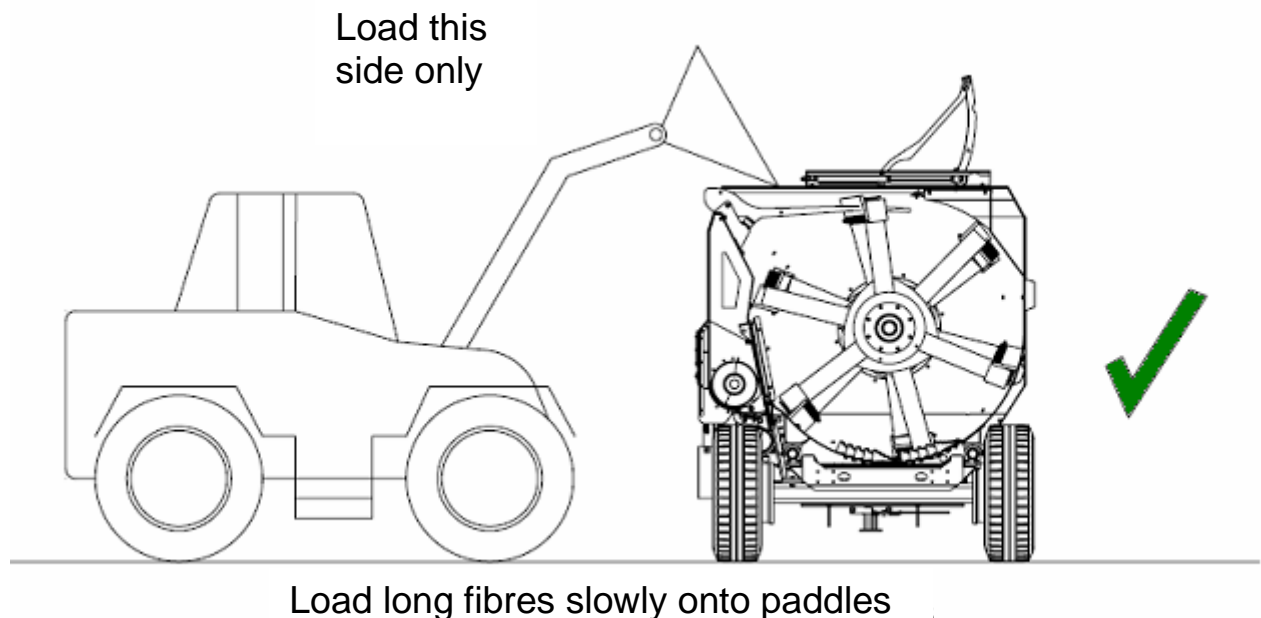

Figure 8: Loading the KEENAN MechFiber mixer wagon
3. After each season, remove all chains by loosening the tensioners and removing the joiner links (see Figure 8).